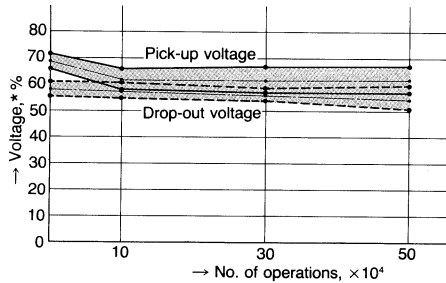

Fig. 2
1. Pick-up and drop-out voltage: Fig. 2